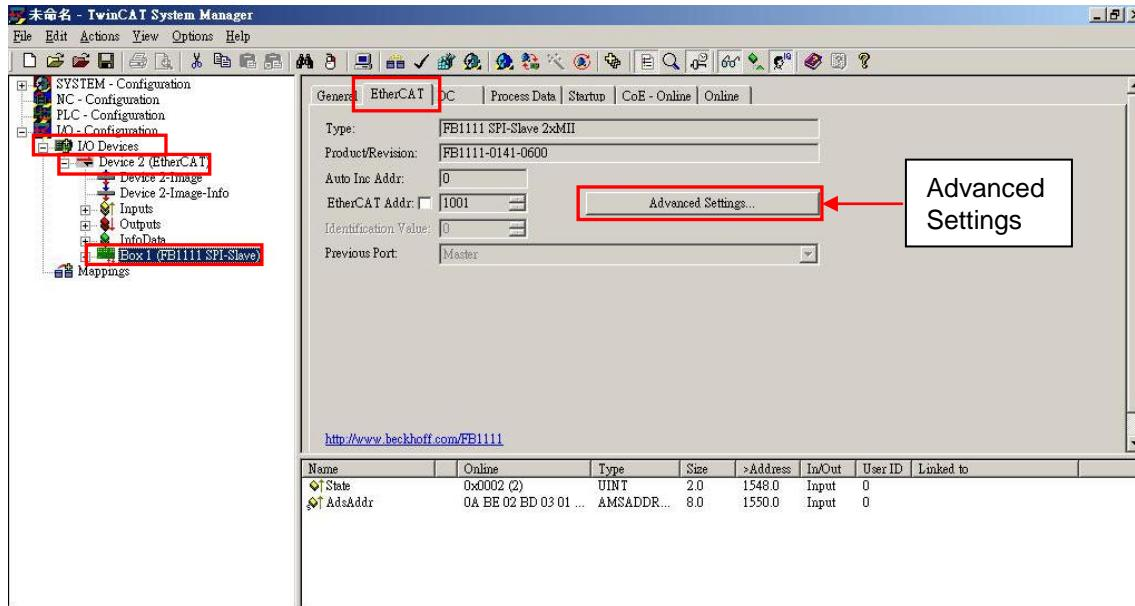

Fig. 5-19
- (1) Execute Steps (1)-(6) given in Section 5.2.1.
- (2) Select “Devices 2 (EtherCAT)” in “I/O Devices” at the left side of TwinCAT main window. There is one sub-item of “Box 1 (FB1111 SPI-Slave)” or unkwnon device. After selecting device needed to update EEPROM, press the button of “Advanced Settings” on “EtherCAT” tab at the right-side window, as shown in Fig. 5-19.